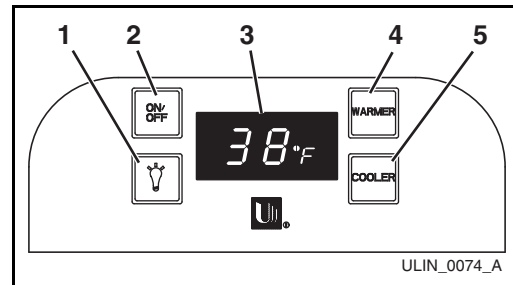

Figure 6
1. Press and release either the **WARMER (Figure 6, 4)** or **COOLER (Figure 6, 5)** button to put the controller in the SET TEMPERATURE mode. The °F (or °C) symbol will begin to flash.
3. The change will be set five seconds after adjusting the temperature, and the new set-point will be displayed (**Figure 6, 3**).